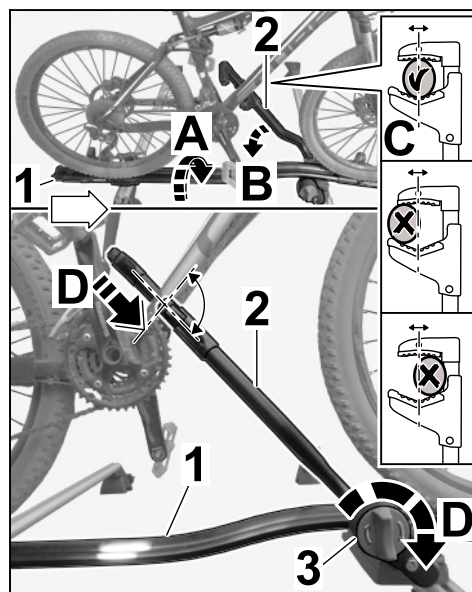

Figure 14
- 5.2.1 Carefully place the bicycle on the bicycle rack with the help of another person ( $\Rightarrow$  Figure 14 -A-) and hold it securely.
- 5.2.2 Position frame holder (claw) on the down tube of the bicycle frame at the centre ( $\Rightarrow$  Figure 14 -C-) and close to the chain wheel ( $\Rightarrow$  Figure 14 -B-).
- 5.2.3 Turn rotary knob to the right until the frame holder (claw) secures the down tube ( $\Rightarrow$  Figure 14 -D-).